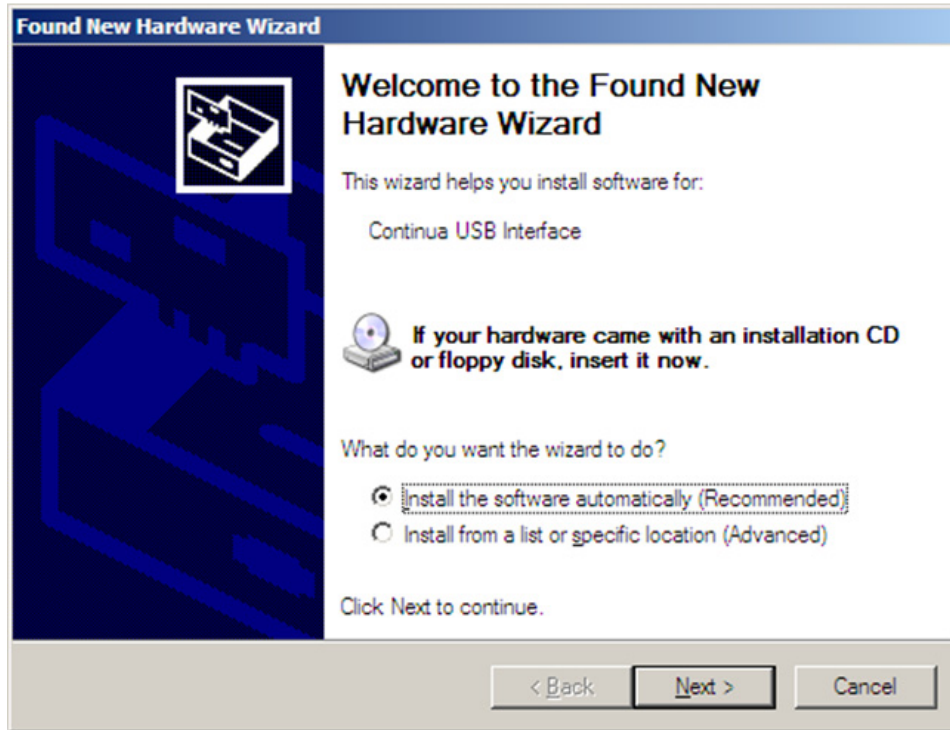
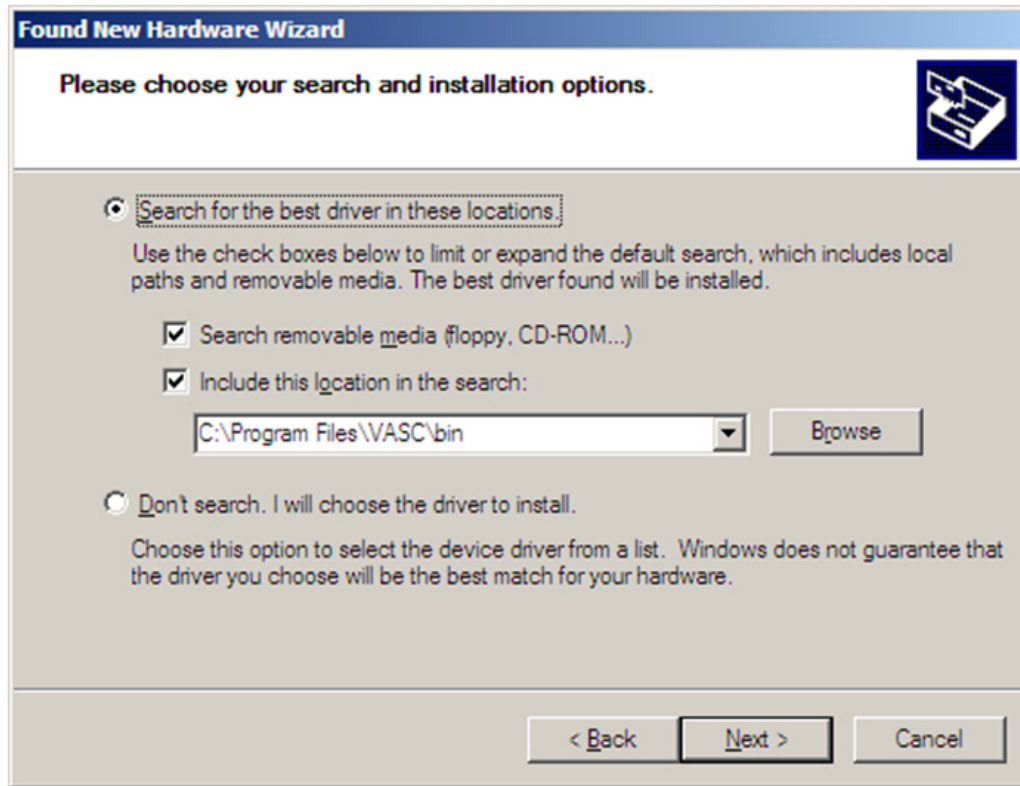

Figure C-1. Found New Hardware window
Figure C-2. Search and installation options
2. Select **Install from a list or specific location (Advanced)** option as shown in Figure C-1, and click on the **Next** button. Search and installation options window appears as shown in Figure C-2.